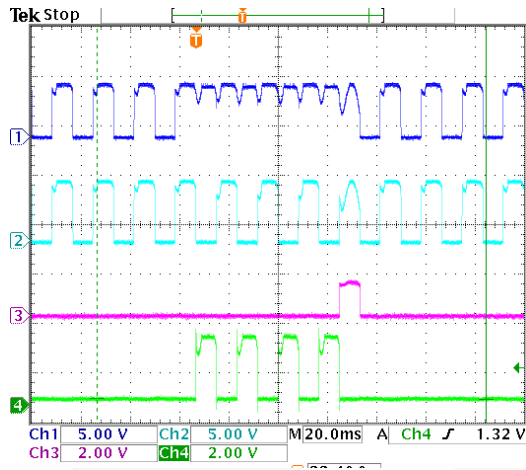
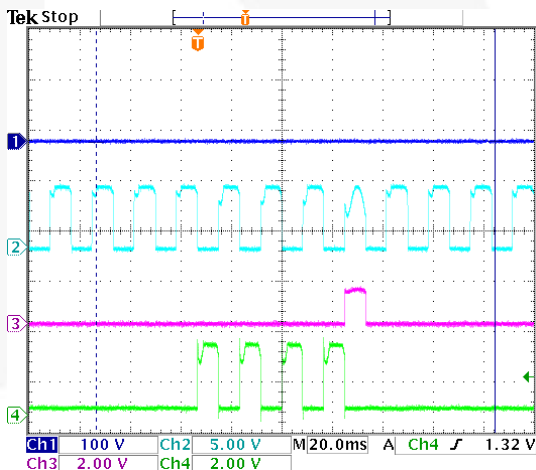

Figure 7. SCR Test Ch1: SCR Test (Pin 1), Ch 2: Phase (Pin 4), Ch 3: EOL Alarm (Pin 5), Ch 4: Fault Test (Pin 6)⁽⁸⁾
Figure 10. Solenoid Test Ch1: SCR Anode (100 V/Div), Ch2: Phase (Pin 4), Ch3: EOL Alarm (Pin 5), Ch4: Fault Test (Pin 6)⁽¹¹⁾
If any one of the above self tests fail, the FAN41501 repeats the self testing until a 66 ms timer expires. If this occurs, the EOL latch is enabled and the FAN41501 EOL Alarm pin 5 goes HIGH. This signal can be connected to a separate SCR or to the gate of Q1 with a series diode. When the EOL Alarm goes HIGH, the SCR is enabled and energizes the solenoid, which opens the load contacts. When the EOL Alarm pin goes HIGH, if it is connected to the gate of an SCR, V_{DD} drops below 2.5 V. This generates a Power-On-Reset that resets the logic and repeats a self-test cycle in one second. Figure 7 to Figure 10 show a FAN41501 self-test cycle for a SCR, GFI controller, sense coil, and solenoid failure.
The self test cycle lasts for 66 ms to allow four self-test cycle attempts. After the timer has expired, the EOL alarm is enabled. Figure 7 to Figure 10 show an example of the EOL alarm signal connected to the gate of an SCR. When the EOL alarm signal is enabled, the V_{DD} voltage is discharged, which causes a POR. The EOL alarm is disabled and a self-test cycle is repeated in one second.
9. This test is the same as Figure 7, except for the time scale. After a self-test failure, an EOL alarm pulse is generated every one second.